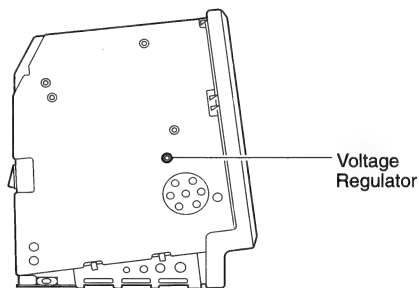

Figure 2 Voltage Adjustment Control
- d. If the voltage reading is not between 11.9 and 12.75 volts, adjust the voltage regulator (Figure 2).
5. Connect the **red** test cable lead (5-volt lead) to the voltage input terminal and switch on the computer. If the voltage reading is not 5 volts ($\pm .15$ volts), adjust the voltage regulator (Figure 2).